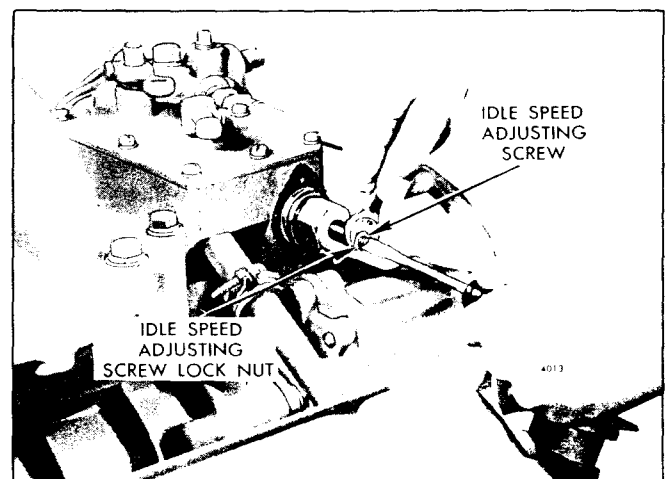

Fig. 6 - Adjusting Engine Idle Speed
1. With the engine running at normal operating temperature and with the buffer screw backed out to avoid contact with the differential lever, turn the idle speed adjusting screw (Fig. 6) until the engine idles at the recommended idle speed. The recommended idle speed is 500-600 rpm, but may vary with the engine application.